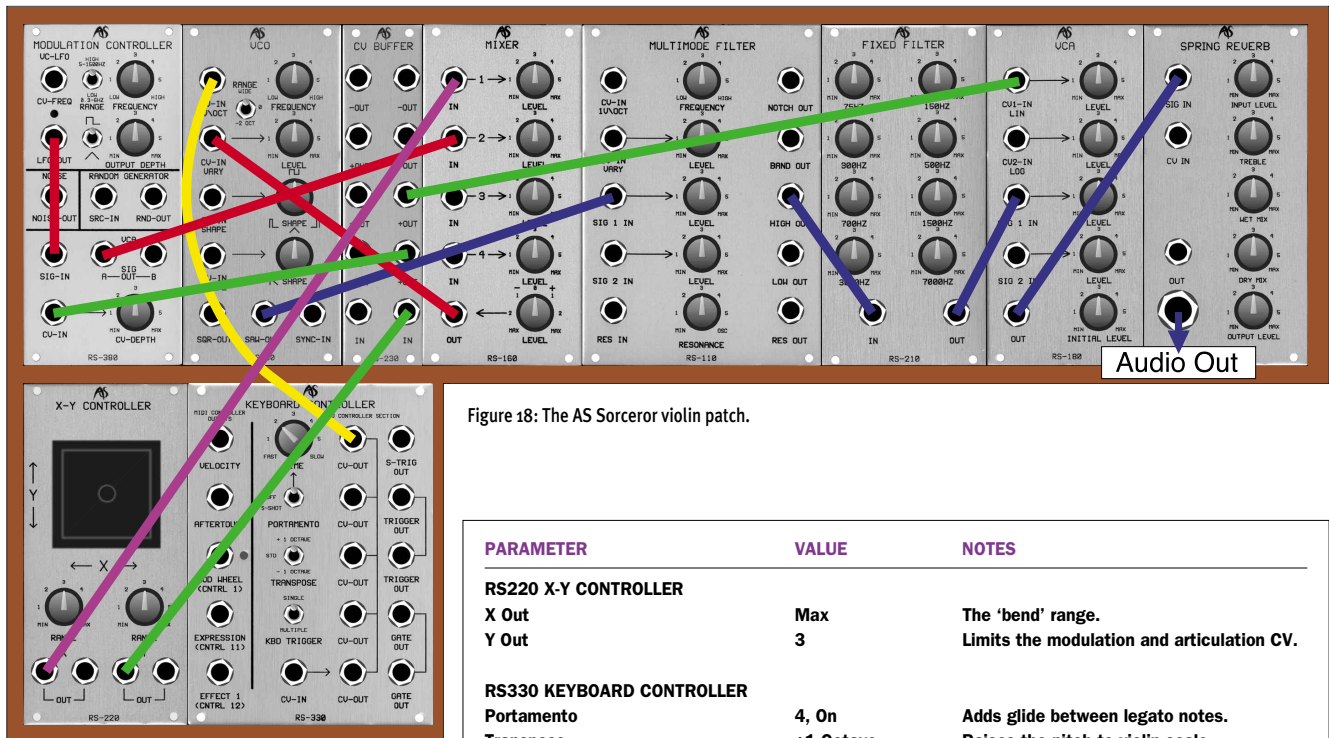

Figure 18: The AS Sorceror violin patch.
If we now add the CV cords to the signal cords, we obtain the visual spaghetti that is Figure 18 (on the next page). Nevertheless, if you follow all the paths, you can see that it not only works, it makes sense.
▶ a bit like taking a Minimoo and expecting it to sound like a violin, simply because its modules are connected together. So let's finish this month's article by adding some values to the knobs in Figure 18. Bear in mind that these are to my taste on the days that I wrote this, and that you might find other values more to your liking. What's more, tiny changes in the values of the knobs can make significant differences to the resulting sound, yet I have listed them to the nearest half. So, with these caveats in mind, take a look at the table of values on the right. To obtain the complete patch, combine the routings depicted in Figure 18 with the settings in the table.